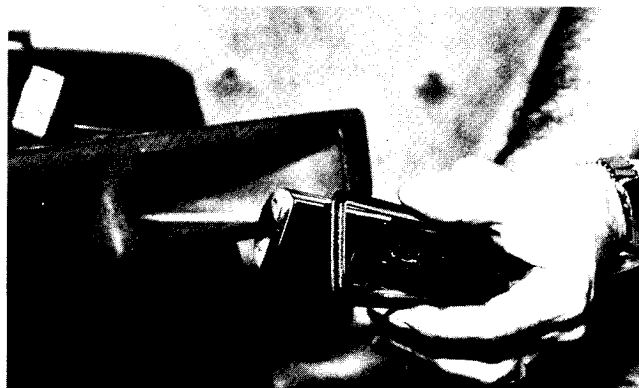

FIGURE 23
30. Remove the bezel trim piece from duct assembly and install bezels into trim pieces (Figure 23).